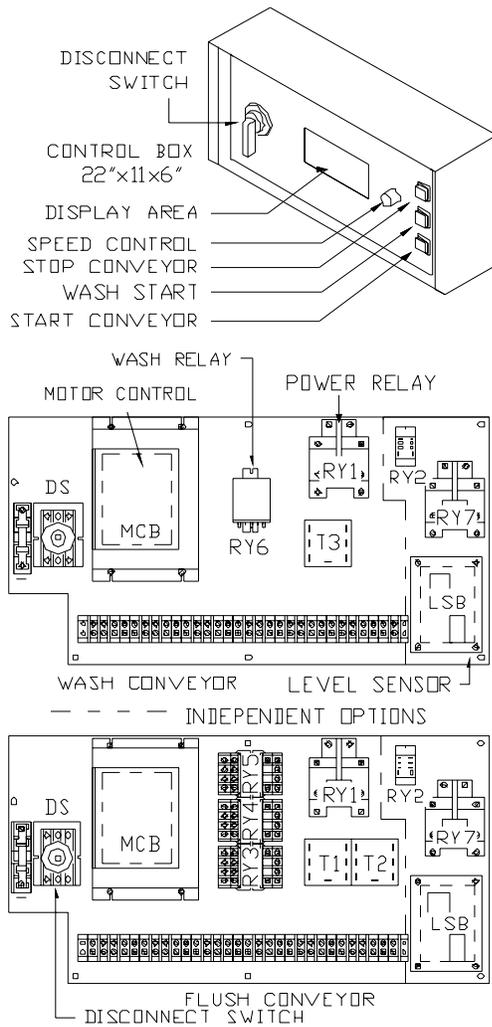

Fig. 4.1
A. Over Counter Control Panel (See Fig. 4.1)